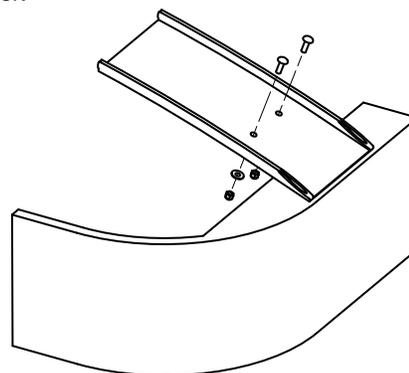

Figure 8-4
- Figure 8-4.** Drill two 1/2" diameter holes through trough and bracket.
- Figure 8-4.** Attach with 3/8-16 x 1-1/4" carriage bolt, 3/8 flat washer, and 3/8-16 nylon hex nut.